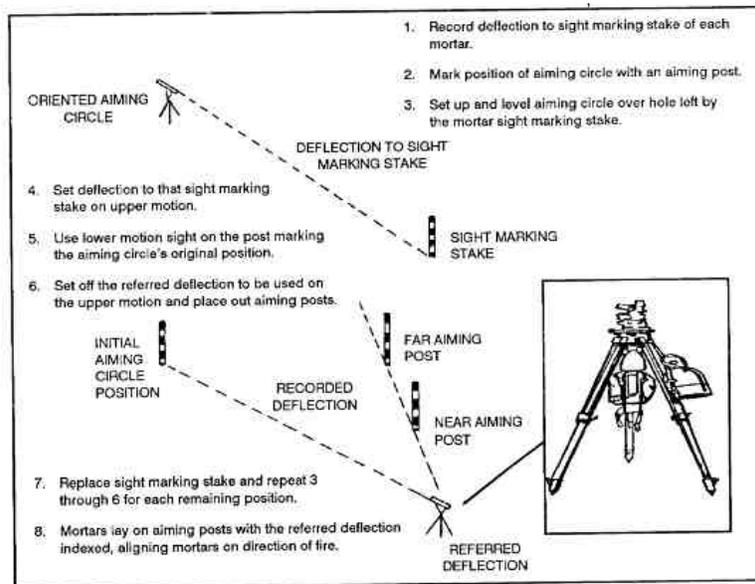

Figure 6-6. Rough lay of mortar position.
(5) Setting up the aiming circle and determining the azimuth of fire. The advance party identifies the direction of fire with direction stakes.
(6) Completing a rough lay of the mortar positions, if time allows. This method is useful for night occupations. (Figure 6-6.)